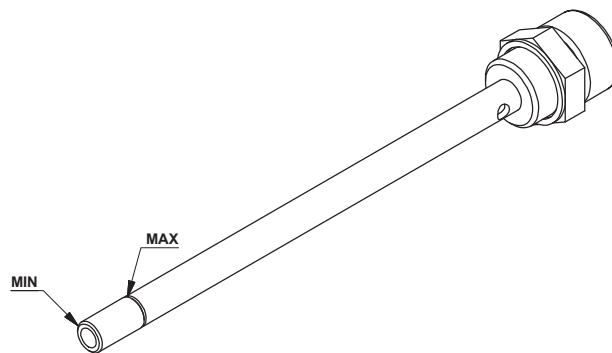

FIG. 36
- Check that the level is between the minimum and maximum indicated on the dipstick (Fig. 36)